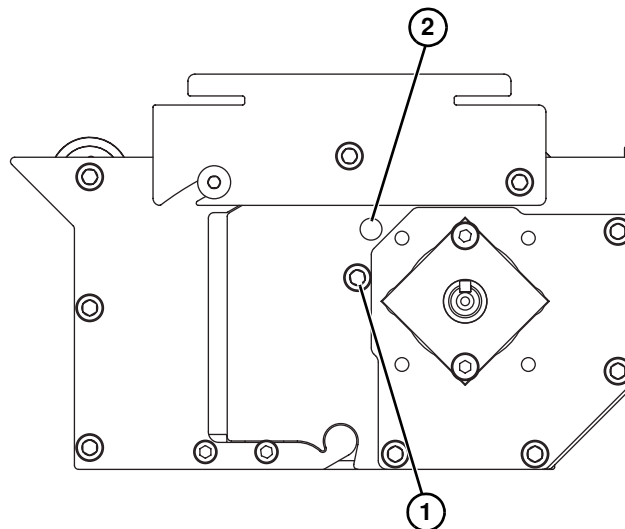

Figure 60
*Please take note of the idler assembly locations. The center idler assembly uses the lower hole (**Figure 60, item 1**) for Micropitch conveyor belts (Types 01-02) and the upper holes (**Figure 60, item 2**) for Metalworking conveyor belts (Types 30-42).*